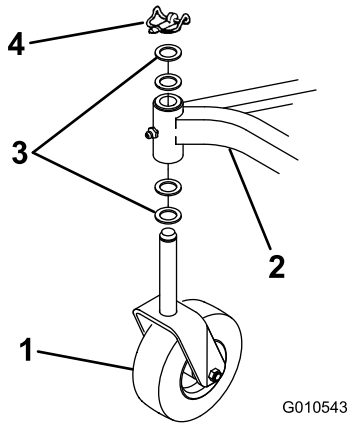

Figure 5
- Remove the lynch pin and 2 thrust washers shipped on each castor wheel assembly. Leave 2 thrust washers on each shaft, insert the shafts into the frame mounting tube, and install the thrust washers and lynch pin (Figure 5).